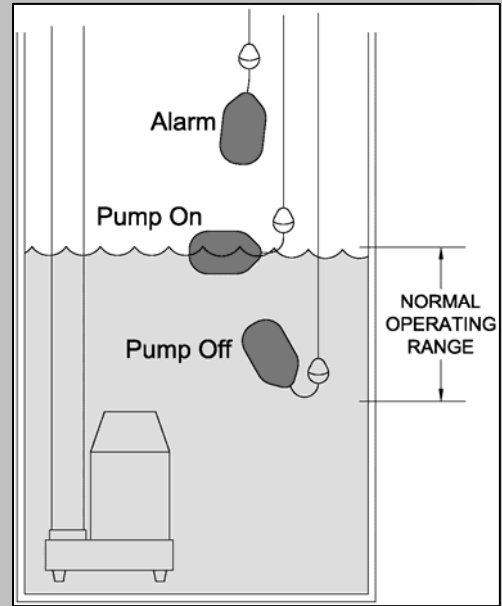

Figure 2
- If your PowerZone Jr. has the 3-float option, see **Figure 2** instead.